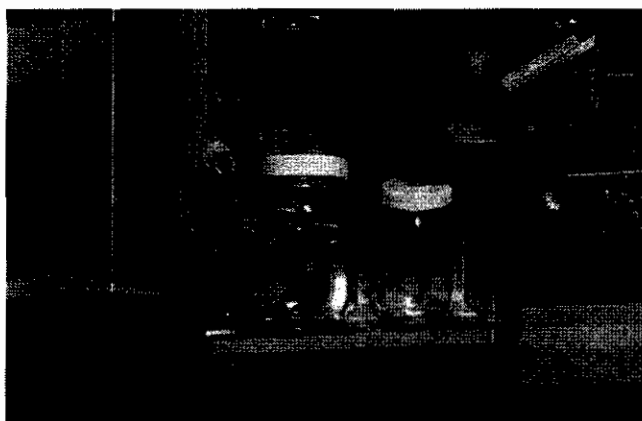

Figure 2-I
5. Lift priming lid and set the xylene bottle under the lid by positioning the priming tube inside of the bottle (Figure 2-I).